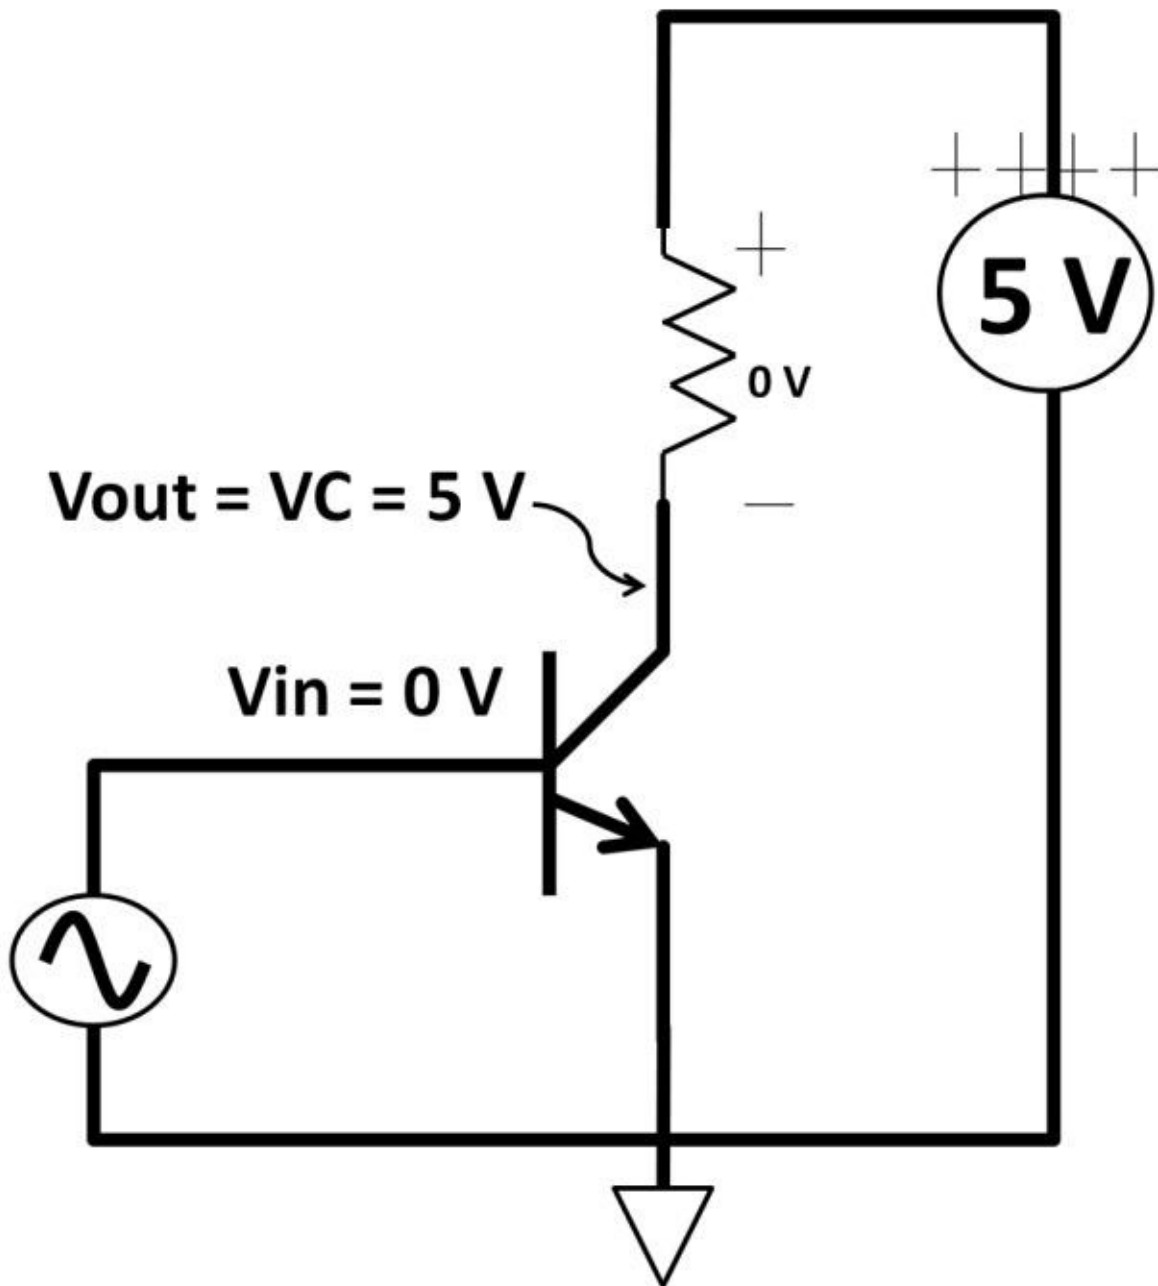

Figure 4.14:
Let's apply individual transistor understanding into a simple circuit: an amplifier. An amplifier by definition provides voltage, current, and/or power gain. Amplifiers are regularly used to amplify input signals and produce a larger output signal. The circuit in figure 4.9 is categorized as a single-ended amplifier. There is one single input and output. This is a common emitter amplifier, which means the emitter is common (DC) to a fixed potential where the output is located at the collector. There are many ways to build amplifiers using transistors. We will look at several in this section. Reusing the circuit back in figure 4.9, we revised it to replace the input with a sinusoidal source shown in figure 4.14. When V_{in} is zero, NPN stays off (Zero VBE). No I_B , I_C , and I_E are zeros. There is no voltage drop across the resistor. V_{out} is 5 V according to Ohm's law: